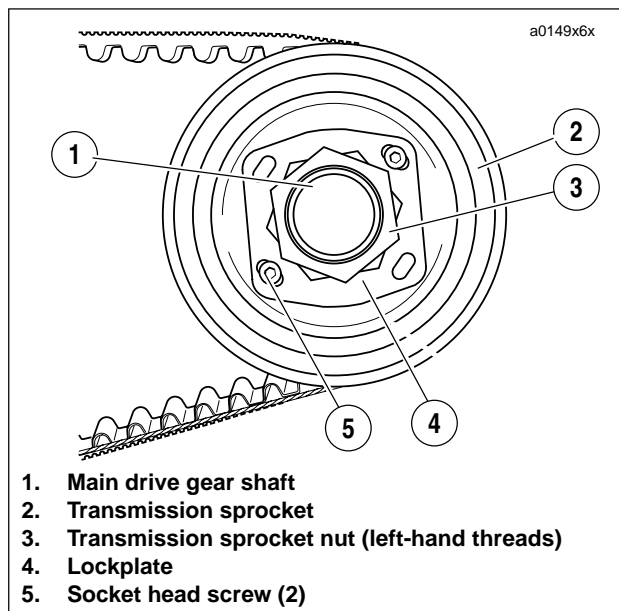

Figure 6-55. Transmission Sprocket
1. See Figure 6-55. Place transmission in first gear. Remove two socket head screws (5) and lockplate (4).
2. See Figure 6-55. Remove transmission sprocket nut (3) from main drive gear shaft (1).
1. See Figure 6-55. Install transmission sprocket (2) with secondary drive belt onto main drive gear shaft (1).
3. Apply a few drops of LOCTITE 262 (red) to the **left-hand threads** of transmission sprocket nut (3). Position nut with washer-faced side facing transmission sprocket. Turn the nut **counterclockwise** to install it onto main drive gear shaft.
8. See Figure 6-55. Install lockplate over nut so that two of lockplate's four drilled holes (diagonally opposite) align with sprocket's two tapped holes.
10. See Figure 6-55. Install two socket head screws through aligned holes of lockplate and into tapped holes of sprocket. Tighten to 90-110 **in-lbs** (10-12 Nm).